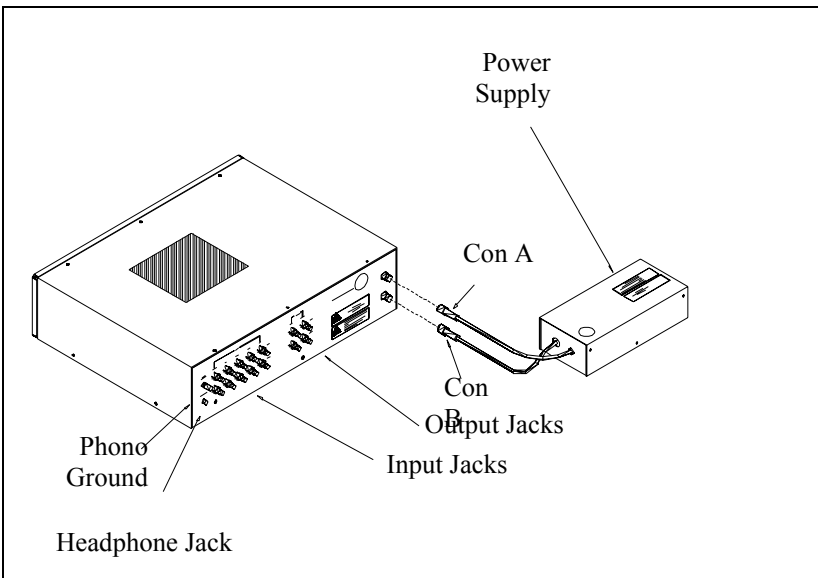

Figure 2
- 4) *Connecting the power supply* - Carefully plug the connectors, Con A and Con B, coming from the power supply into the rear of the preamplifier. See Figure 2. Connect the IEC end of power cord to the power supply, and plug opposite end into corresponding outlet.
Note: Be careful to ensure 3 and 6 pin sockets (Con A and Con B respectively) mate to corresponding plugs. See Figure 2.
- 5) *Connections to other components* - Connections are shown in Figure 2. The input connections for source material (phonograph, CD player, tuner, tape recorder) are made via RCA jacks on the rear of the preamplifier. One pair of additional auxiliary jacks is also available for line level sources (approximately 1 volt). A five-way lug is provided for grounding the turntable to the preamplifier. There is also a headphone jack provided on the rear of the unit. The outputs to the power amplifier and tape recorder are arranged to the right of the input jacks. *Be sure to use high quality interconnect cables - they do make a difference.*